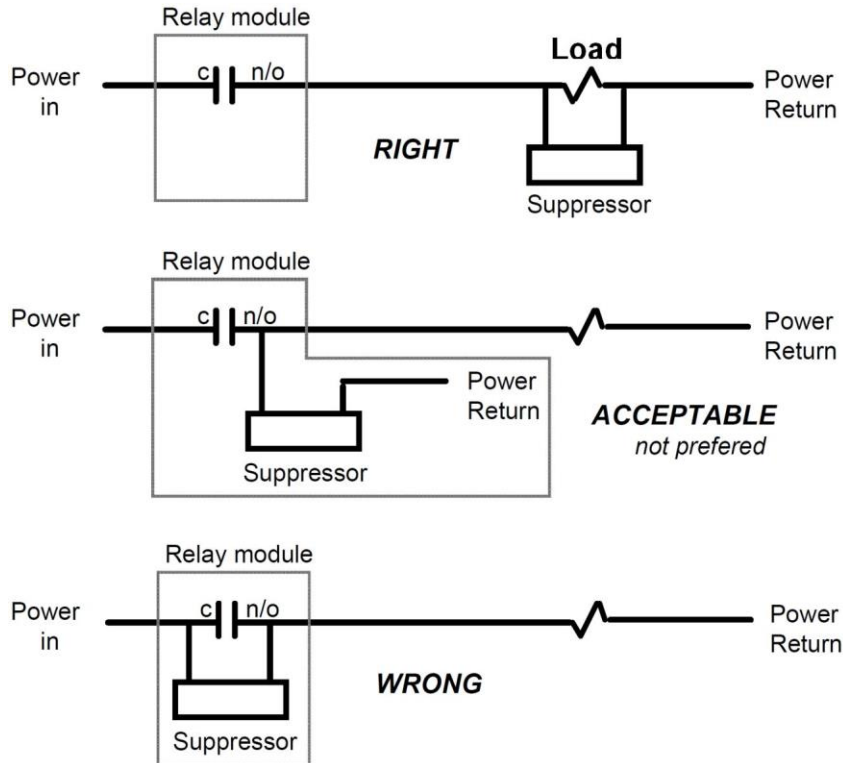

Figure 2-14. How to connect suppressors across the load
6. Install the position sensor as shown in Figure 2-14. The magnet should be installed plastic side up with a non-ferrous metal screw. It is important not to use a ferrous screw because it could cause false signals. A brass screw (6-32) is supplied. Use a No. 36 drill and a 6-32 tap.